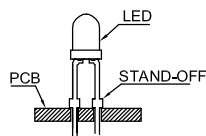
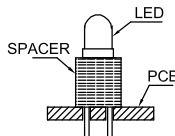

Fig. 3
Fig. 4
4. Use stand-offs (Fig.3) or spacers (Fig.4) to securely position the LED above the PCB.